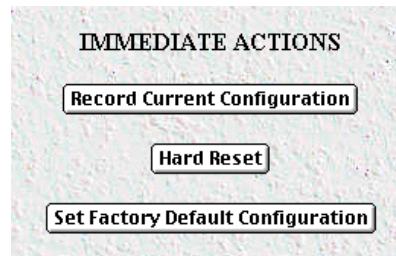

Figure 20. Immediate Actions buttons
- **Record Current Configuration**—clicking on this button (figure 20) causes the current configuration to be stored in FLASH memory. Any changes made to the RAS configuration are stored in non-volatile RAM first. This allows the user to set the box up with a working configuration before committing it to FLASH. Configuration changes become permanent when you select **Record Current Configuration**. You will *lose* all changes *not* stored to FLASH the next time the RAS is re-booted.
- **Hard Reset**—this button (figure 20) causes the RAS to perform a cold restart. When you select **Hard Reset**, the RAS confirms that you want to execute this command. Then, the RAS will disconnect all current sessions, re-initialize the interfaces, and re-load configuration parameters from FLASH.
- **Set Factory Default Configuration**—this button (figure 20) clears out the configuration in FLASH and loads the factory default parameters into FLASH memory. The factory default settings *will not* execute on the RAS until it is re-booted.
**Note** **Set Factory Default Configuration** (figure 20) will delete any routing information, the RAS's Ethernet IP address, and any other site specific settings made for your particular installation. You will have to re-enter the RAS's Ethernet IP address and netmask using the front panel control port in order to use the HTTP/HTML Management pages.